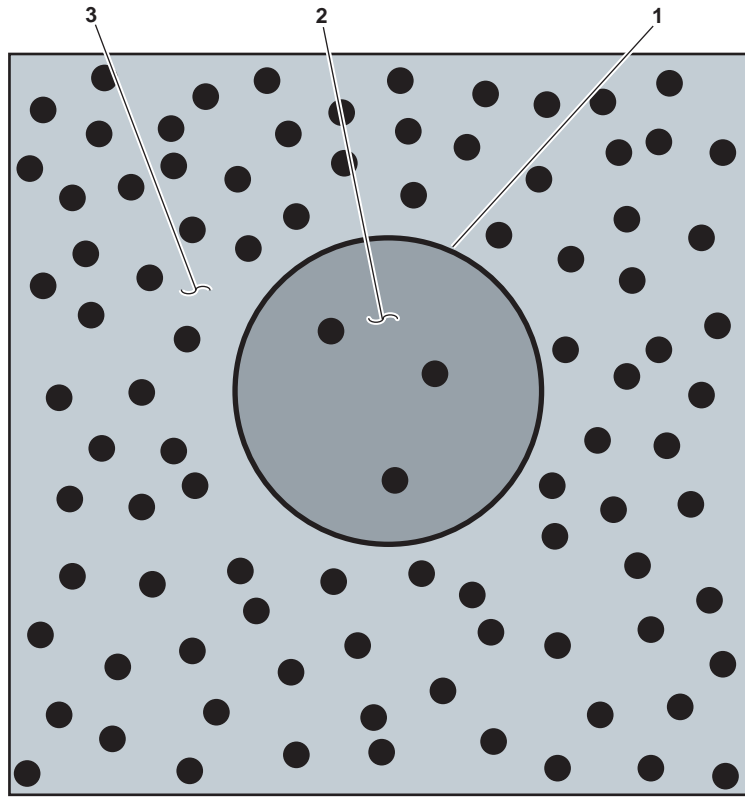
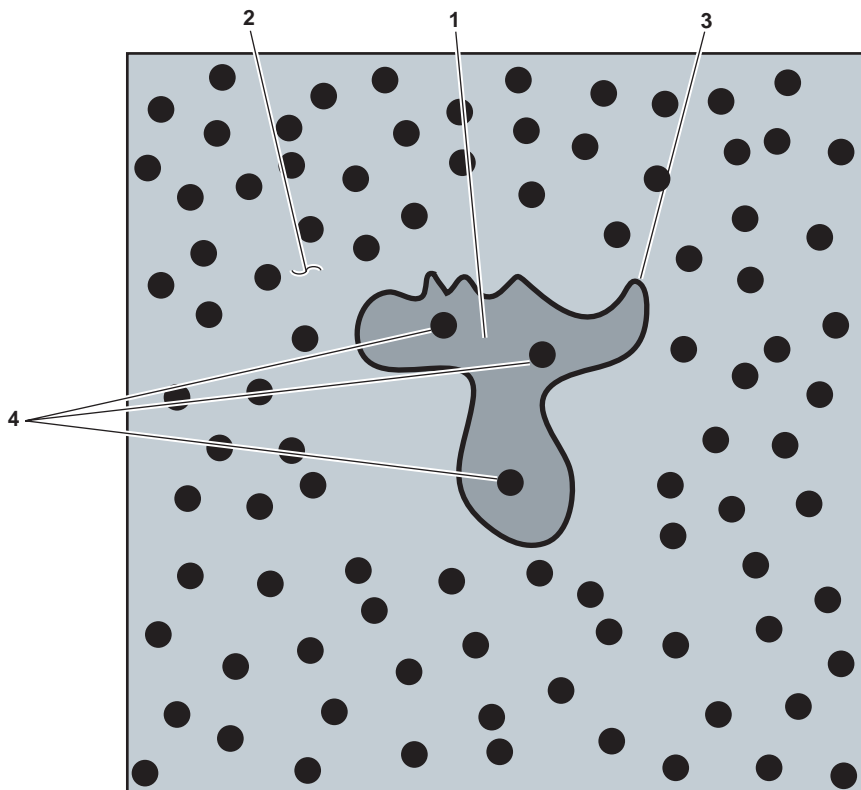

Figure 1. Living Cell Prior to Naturally Occurring Osmosis
Figure 2. Living Cell After Naturally Occurring Osmosis
Osmosis is the diffusion of two mixable solutions through a semi-permeable membrane in such a manner as to equalize their concentrations. Natural osmosis occurs when a substance of lesser salinity naturally diffuses through a membrane into a higher concentration salinity. Cellular functions in the human body function in this manner. The process is very energy efficient in that it requires very little heat or pressure. However, the warmer the liquids, the more efficient the process due to the activity of the molecules. It is a natural function for liquids of unequal density to try to equalize themselves with one another when they are in molecular contact. In natural osmosis, liquids that are less saline attempt to equalize pressure by becoming more saline. The membrane of a living cell (figure 1, item 1) passes lower density saline solution (figure 1, item 2) into higher density saline solutions (figure 1, item 3). This happens because the lower density solution (figure 2, item 1) inside the cell naturally moves to equilibrium with the higher density solution (figure 2, item 2) the cell is located in. The cell membrane (figure 2, item 3) allows liquid to pass, but it prevents particles (figure 2, item 4) from passing.